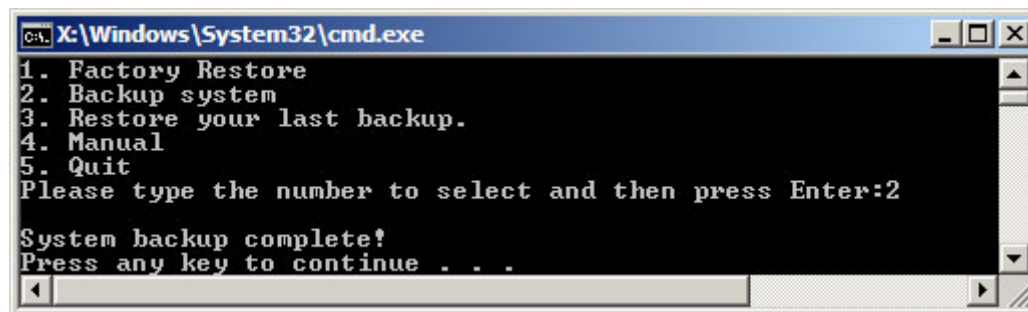

Figure B-30: System Backup Complete Window
Step 3: The screen shown in **Figure B-30** appears when system backup is complete.